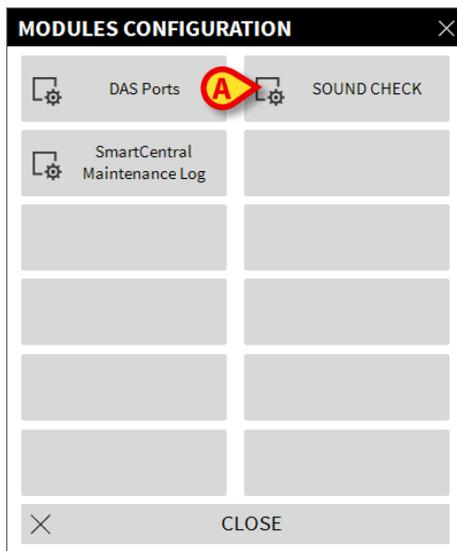

Fig 88
The following menu opens (Fig 88).
- Click on **Sound Check** (Fig 88 **A**)